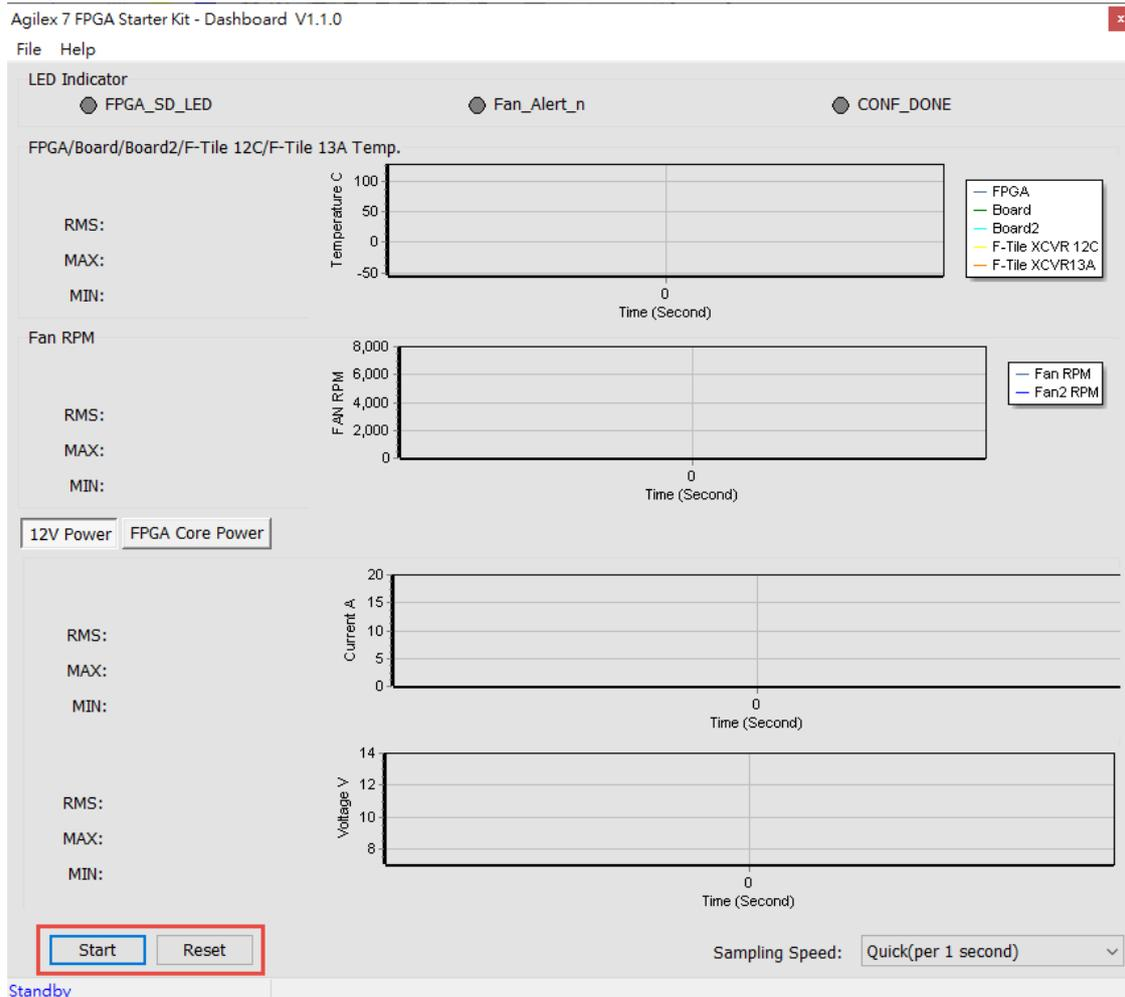

Figure 3-7 Start and Reset button
- **Start/Stop:** As shown in **Figure 3-7**, there is a Start button at the bottom-left of the GUI window. Click it to run the program (Start will change to Stop), it will show the Agilex 7 FPGA Starter Kit board status. Users can press Stop button to stop the status data transmission and display.